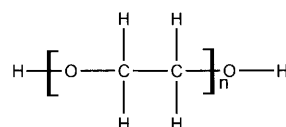
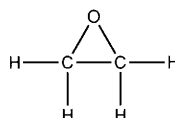

Figure 6 PEG
Figure 7 Epoxyethane
The chemical chosen is called polyethylene glycol or PEG for short, see Figure 6. PEG is not a single substance – it refers to a range of compounds all of which are polymers of the monomer epoxyethane, see Figure 7.
Note that epoxyethane actually exists as a ring, see Figure 7.
Epoxyethane is highly reactive, due largely to so-called ring strain in its three-membered ring, see Figure 7.
- Q7.** (a) Look at Figure 6. What is the approximate O–C–C bond angle in epoxyethane?